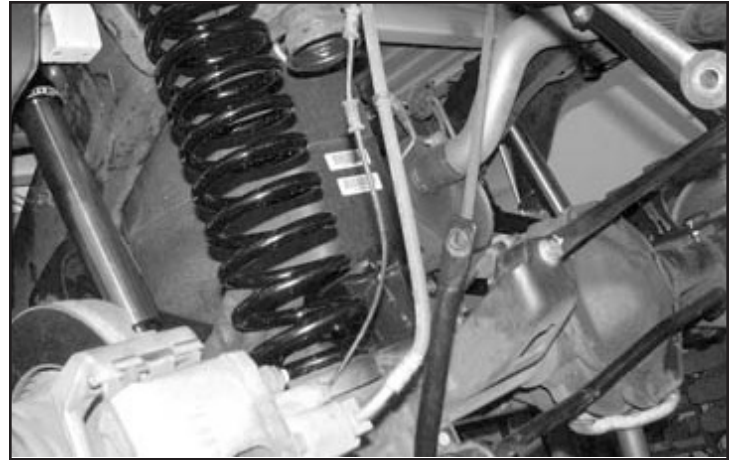

FIGURE 50 - STEP 68
68. Install the Fabtech coil springs FT44294BK using the factory coil isolator. **SEE FIGURE 50**